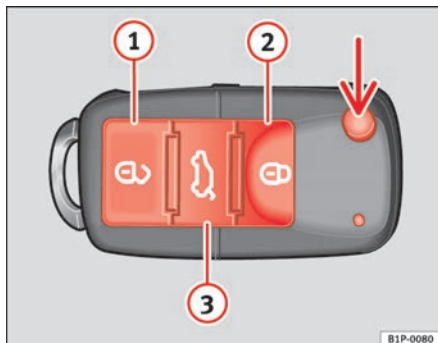

Fig. 62 Assignment of buttons on the remote control key
Using the button \Rightarrow fig. 62 (arrow) on the control, the key shaft is released.
Unlocking the vehicle \Rightarrow fig. 62 ①. The doors and the tailgate are unlocked.
Locking the vehicle \Rightarrow fig. 62 ②.
Unlocking the tailgate. Press the button \Rightarrow fig. 62 ③ until all indicators on the vehicle briefly flash. When the unlocking button \Rightarrow fig. 62 ③ is pressed, you have 2 minutes to open the door. Once this time has passed, it will lock once more.
Also, the battery indicator on the key \Rightarrow fig. 62, will flash.
When the button \Rightarrow fig. 62 ① is pressed once the driver's door is unlocked, all others remain locked.
- Press the  ⇒ page 98, fig. 62 button on the remote control.